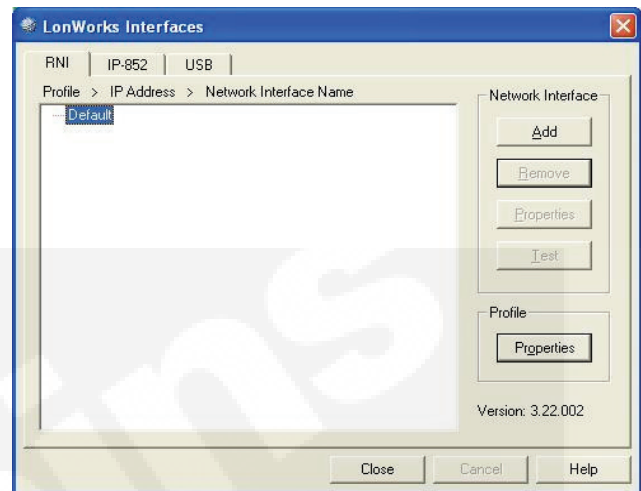

FIGURE 4-17. LONWORKS INTERFACES
4. Make sure “Default” is selected (see Figure 4-17).